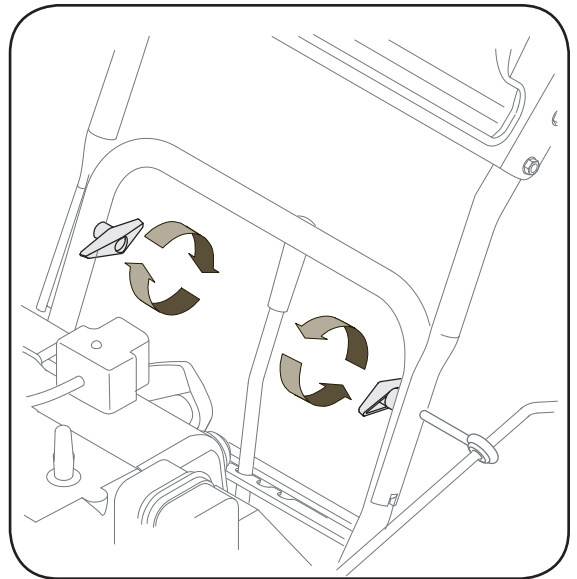

Figure 3-2
2. Secure the handle by tightening the plastic wing knob located on both the left and right sides of the handle. Remove and discard any rubber bands, if present. They are for packaging purposes only. See Figure 3-2.